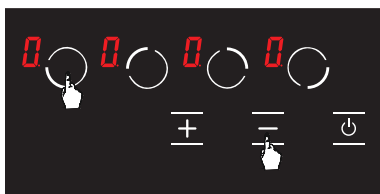

Figure 18
2. Press front left hob selection key (●) and minus key (−) simultaneously. (see Fig. 18) You shall hear a short warning signal at this time. Then, remove your fingers from the stove control panel.